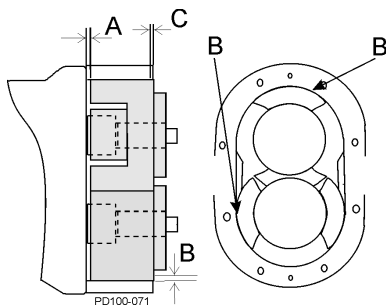

Figure 87 - Measure Clearance
9. Measure the rotor backface clearance (Figure 87, item A) through the port or from the front. The backface clearance for both rotors must be the same to prevent rotor crossover contact and must be ± 0.0005 " of the value found in Table 2, "Rotor Clearances," on page 41.
10. Check the rotor front face clearance (Figure 87, item C).
11. Check the rotor to body clearance (Figure 87, item B).